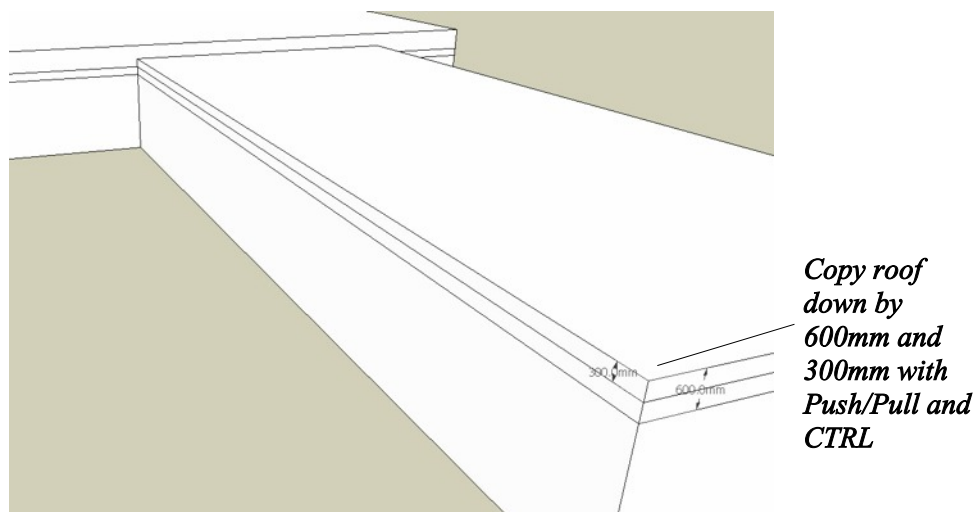

Figure 27. Buildings 1 & 2 with roof copied downwards with Push/Pull
- Use **WINDOW/Layers** to freeze all of the layers so that only the buildings layer is visible as shown in Figure 27.
- Repeat the same process but this time by 300mm. You will see 2 lines around the perimeter of the building as shown in Figure 27.